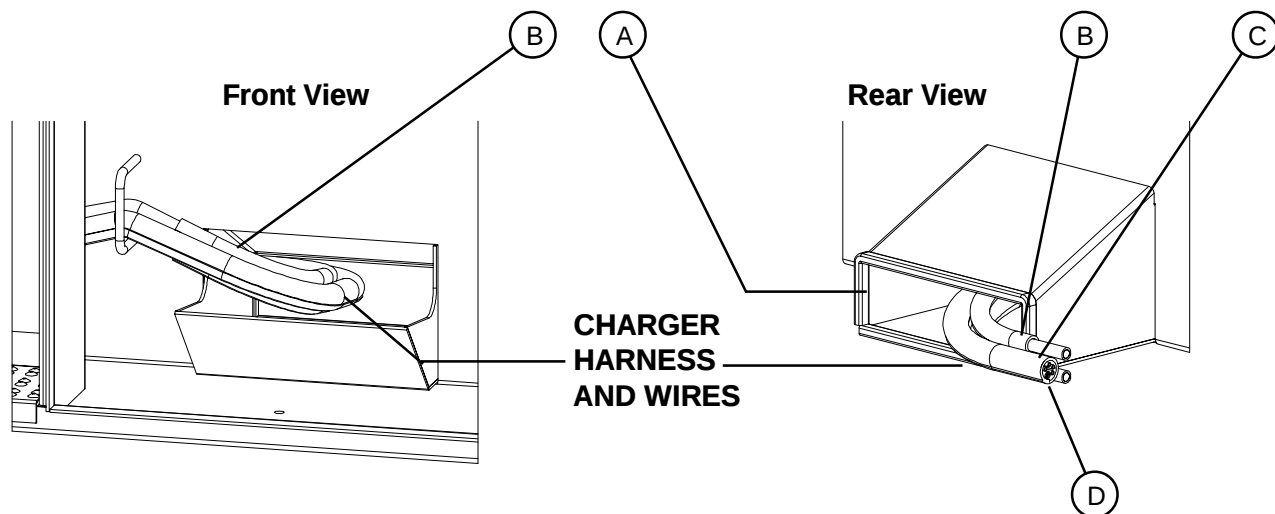

Figure 1-5
Step 11. Crawl under the machine. Locate the two Black, the two Red 10 Ga. Battery Charger wires and the 18/2 Charger Interlock harness, that run between the Hydraulic Cabinet and the Battery Charger Cabinet. Remove these wires from the machine by cutting any tie wraps necessary **(Refer to Figure 1-5).**